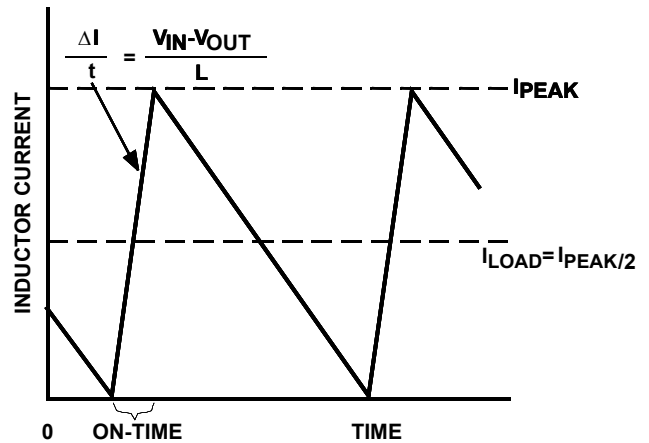

FIGURE 22. ULTRASONIC CURRENT WAVEFORMS
where K is the on-time scale factor (see "On-Time One-Shot (FS)" on page 12). The load-current level at which PFM/PWM crossover occurs,  $I_{LOAD(SKIP)}$ , is equal to half the peak-to-peak ripple current, which is a function of the inductor value (Figure 22). For example, in the ISL8112 typical application circuit with  $V_{OUT1} = 5V$ ,  $V_{IN} = 12V$ ,  $L = 7.6\mu H$ , and  $K = 5\mu s$ , switch over to pulse-skipping operation occurs at  $I_{LOAD} = 0.96A$  or about on-fifth full load. The crossover point occurs at an even lower value if a swinging (soft-saturation) inductor is used.